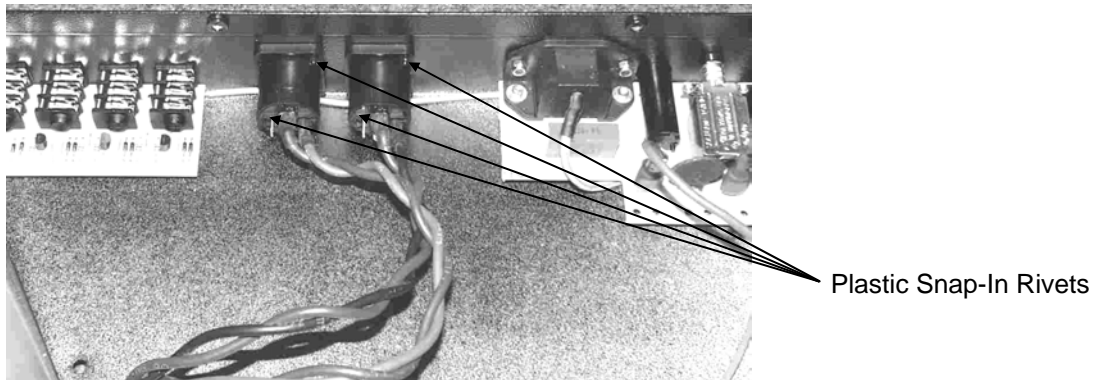

fig.9
- 4) Remove the plastic snap-in rivets from the rear Speakon[®] connectors (see fig.9)